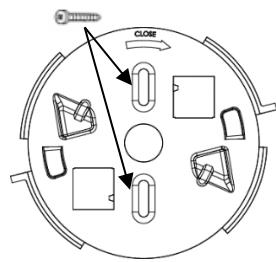

Figure 8
3. Using the mounting holes as a template secure the mounting bracket to the mounting surface (*see Figure 8*).